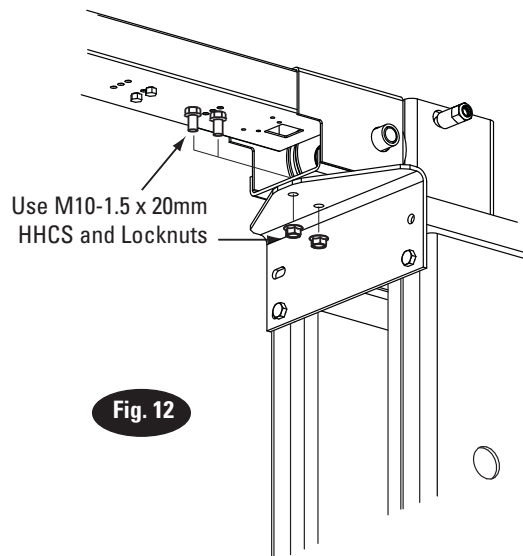

Fig. 12
11. Overhead Installation: Install overhead assembly to Mounting Bracket with (4) M10-1.5 x 20mm HHCS, and (4) M10-1.5 Flanged Locknut on both columns Fig. 12. Tighten bolts at center of overhead assembly.